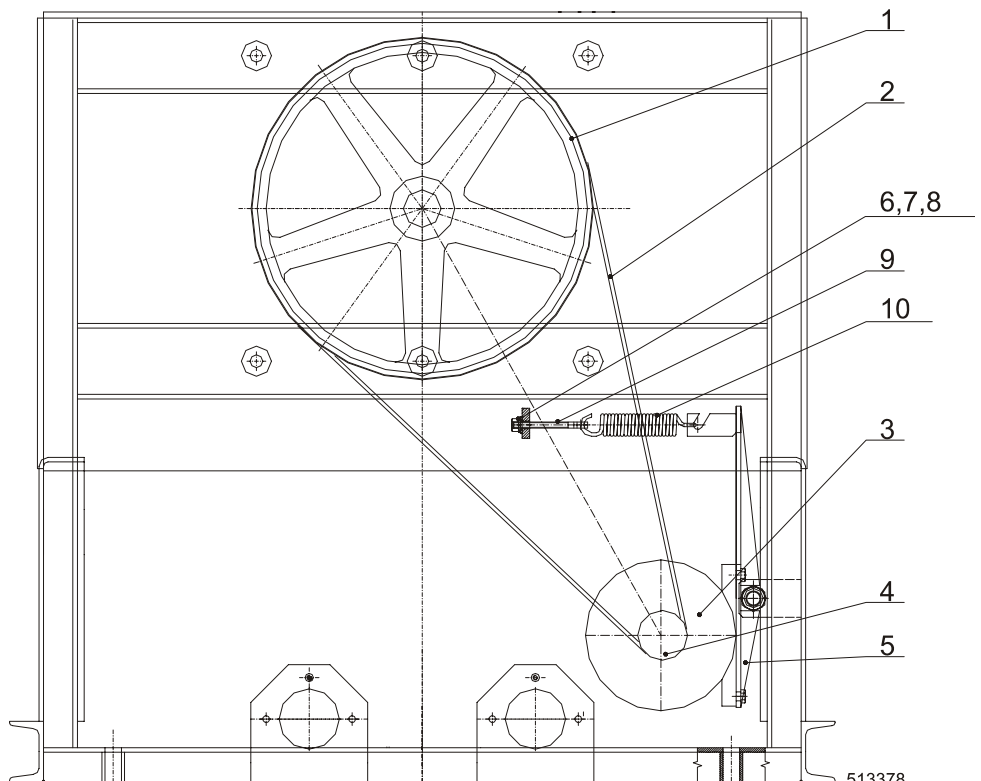

Fig.5.8.E. V-belt, applicable for 35 kg / 80 lb
- Loosen the nut, fig.5.8.E.,pos.8 on the tightening bolt with eye (9) which secure position of the motor board (5).
- Lift up the motor board (5) together with motor (3) by means of assembly lever. This way you decrease tension of belts (2) and you can remove them easily.
- Installation is done in reverse order. The motor pulley (4) and the drum pulley (1) must be in the same level.
- Tighten the belts (2) by tightening the nut (8) on the tensioning bolt with eye (9).